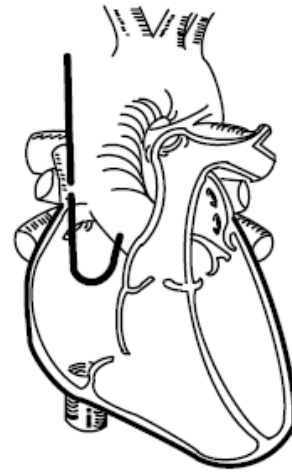

Figure 13
- correct "J" shape (Figure 13)